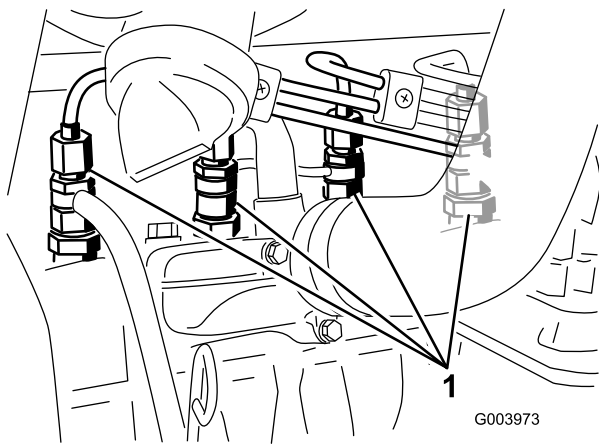

Figure 67
1. Loosen the pipe connection to the No. 1 nozzle and holder assembly (Figure 67).